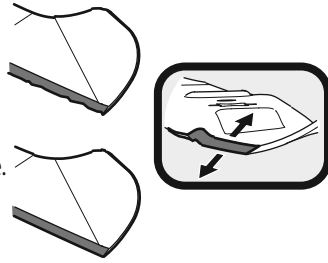

Figure 52
- To properly sharpen the cutting blades, remove equal amounts of metal from both ends of the blades along the cutting edges, parallel to the trailing edge, at a 25° to 30° angle. Always grind each cutting blade edge equally to maintain proper blade balance. See Figure 52.